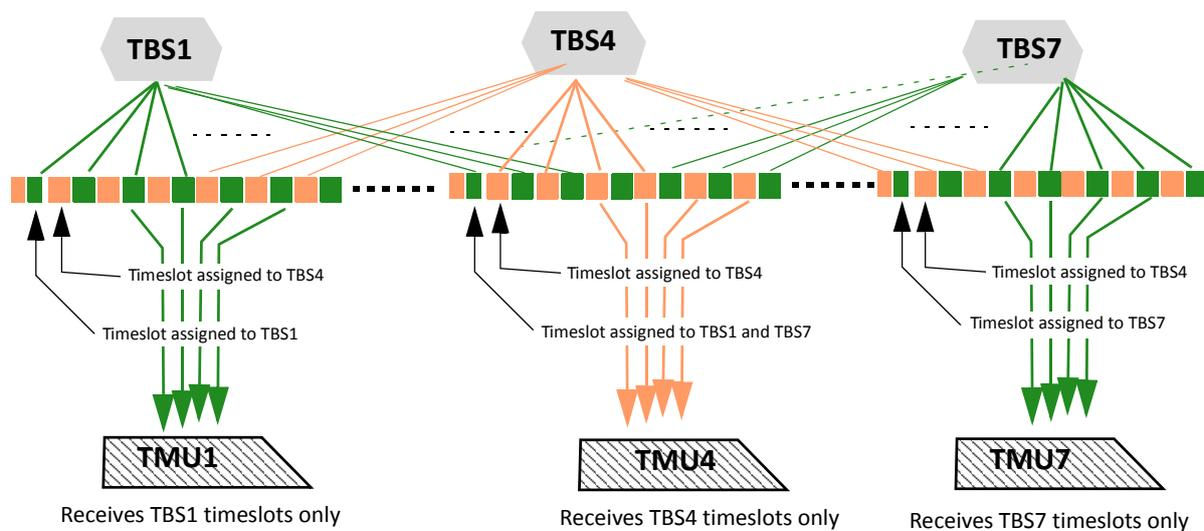

Figure 3-11: Dividing timeslots between co-channel neighbors
**Split timeslots:** TBS1 is configured to split the timeslots in the frame between it and between its “co-channel neighbor” (in our case, with three frequencies, it’s with TBS4)1. The result for the first co-channel neighbor pair is that TBS1 transmits on half of the time slots, and TBS4 transmits on the other half. See Figure 3-11.